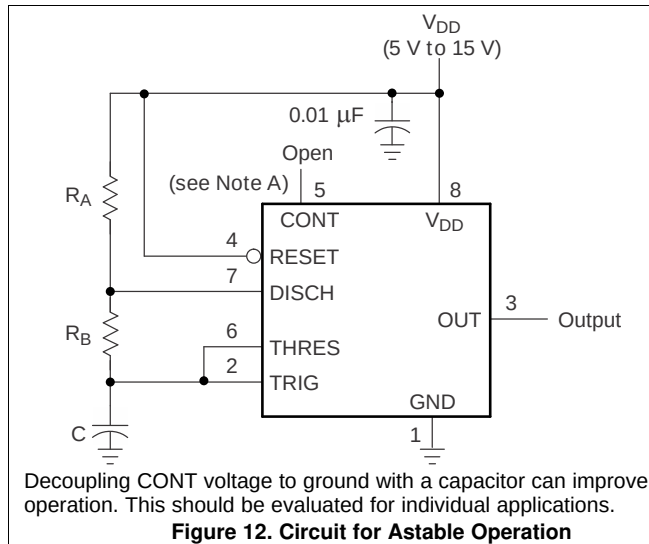

Figure 12. Circuit for Astable Operation
- (1) Timing interval error is defined as the difference between the measured value and the average value of a random sample from each process run.
- (2) R_A , R_B , and C_T are as defined in Figure 12.
As shown in Figure 12, adding a second resistor, R_B , to the circuit of Figure 9 and connecting the trigger input to the threshold input causes the timer to self-trigger and run as a multi-vibrator. The capacitor C charges through R_A and R_B and then discharges through R_B only. Therefore, the duty cycle is controlled by the values of R_A and R_B .